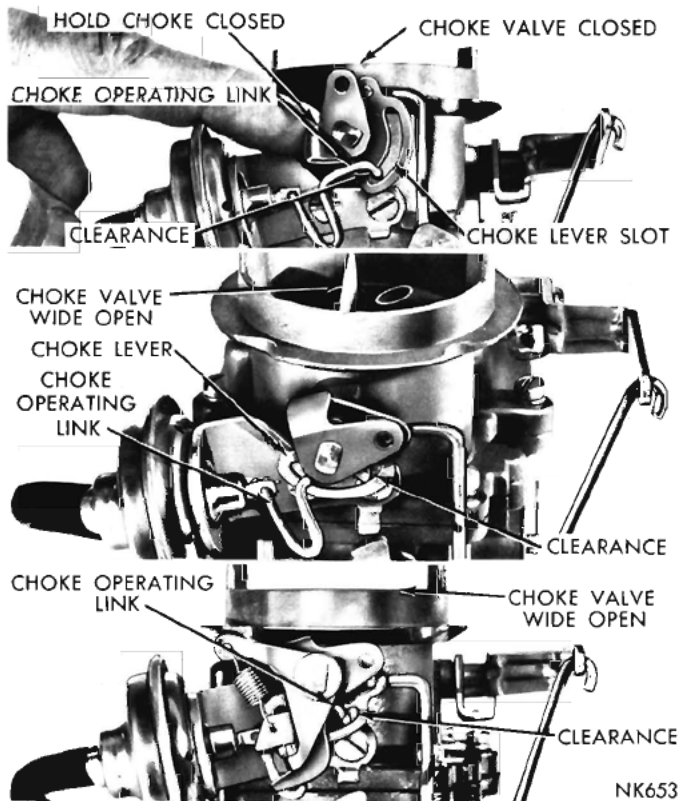

Fig. 17—Choke Operating Link Clearances
(8) With no vacuum applied to the diaphragm, some clearance should exist between the choke operating link and the choke lever slot, in both the open and closed choke valve positions, as shown in (Fig. 17). **This clearance is necessary to allow the choke valve to close for starting as well as fully open after the engine reaches the normal operating temperature.**